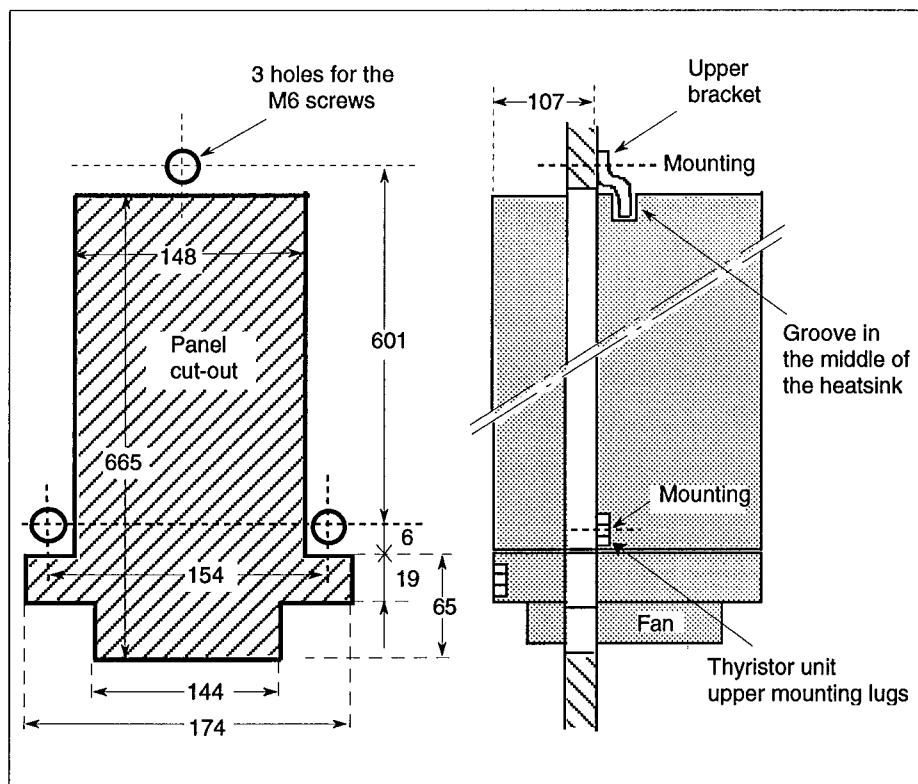

Figure 2-6 TU1470 thyristor unit drilling, cutting and mounting values (in mm)
- Fit the two **M6** screws in the cabinet, observing the drilling values given (figure 2-6).